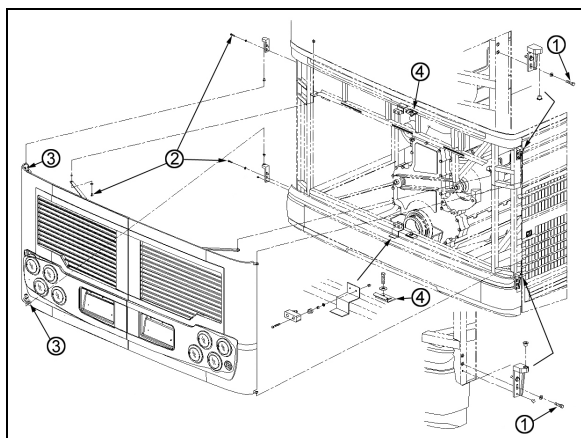

FIGURE 68: ENGINE COMPARTMENT DOORS
6. Loosen the bolts, (1, 2 Fig. 68) holding the hinge to the vehicle structure to shift the door "UP or DOWN".
7. Loosening the bolts (3, Fig. 68) allows the door to be shifted "LEFT or RIGHT" and "IN or OUT".
To adjust the latch mechanism (4, Fig. 68) and the striker pin: